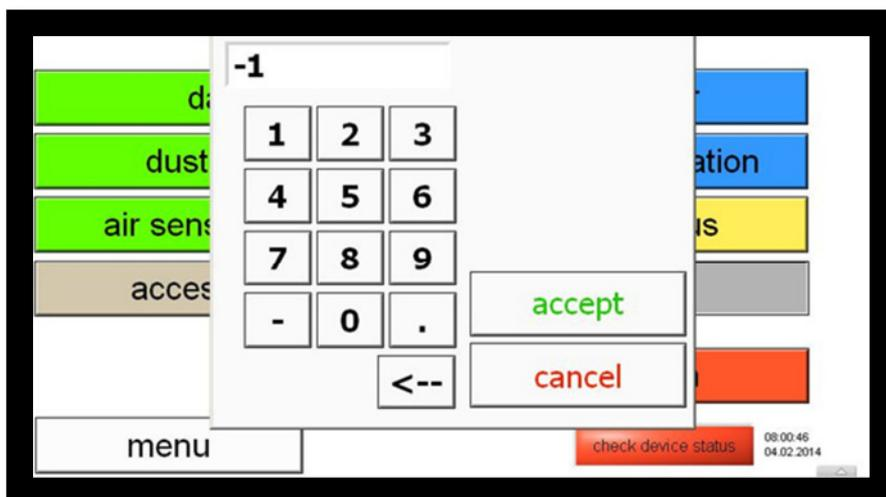

Figure 15: Password entry for accessing the Expert User menu
Go to the Expert User menu by clicking on the “expert user menu” button, then enter “1” followed by “-” and click on “accept” (Figure 15):
- Go to the Expert User menu by clicking on the “expert user menu” button, then enter “1” followed by “-” and click on “accept” (see Figure 15).